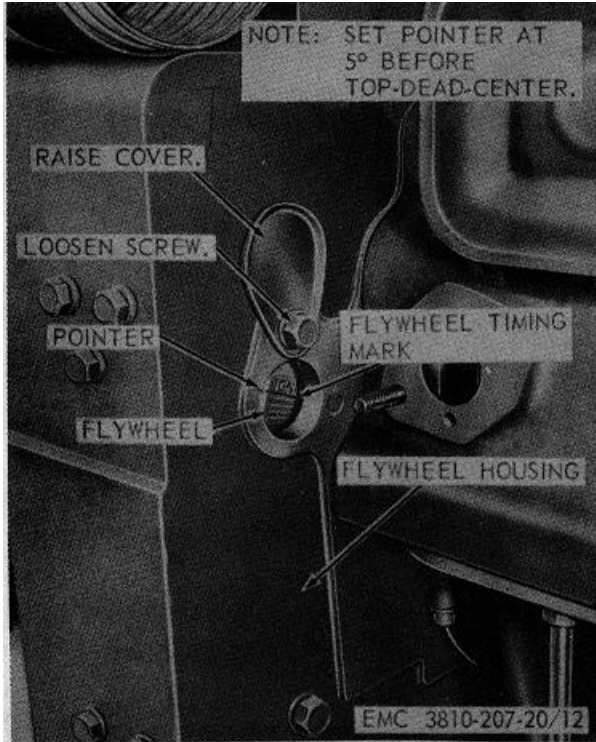

Figure 12. Engine flywheel timing works.
- (1) Loosen screw and raise cover (fig. 12).
- (2) Disconnect spark plug cable from spark plug installed in number 1 cylinder.
- (3) Connect a neon timing light between number 1 spark plug and cable.
- (4) Loosen the distributor mounting screws and start the engine.
- (5) Hold the timing light directly in front of the flywheel opening in the flywheel housing.
- (6) Rotate the distributor in either direction until the timing mark aligns with the center of the hole in the flywheel housing. Tighten the distributor mounting screws. Repeat adjustment as necessary.
- (7) Stop the engine, disconnect the neon light, and connect the spark cable to the spark plug.
- (8) Close the cover and tighten the screw (fig. 12).